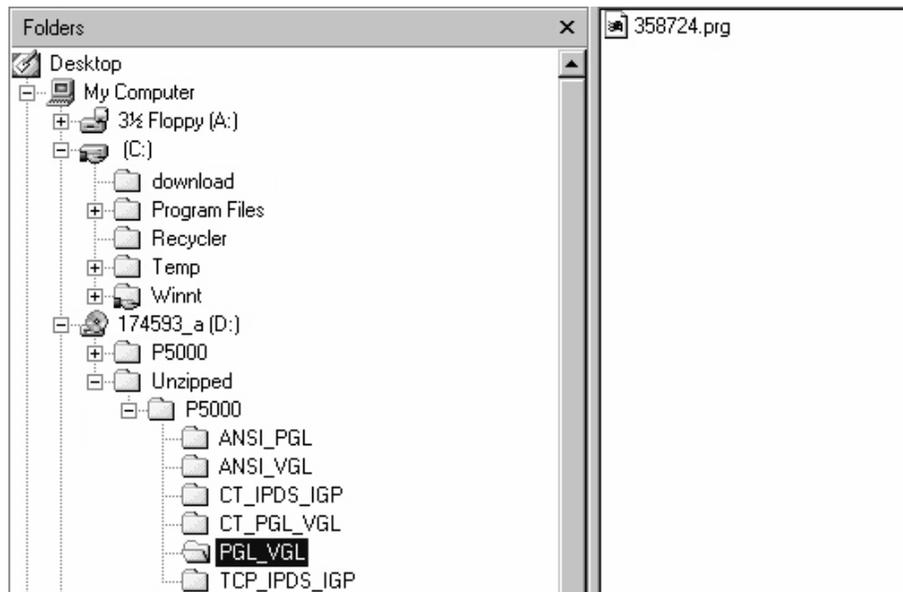

Figure 23. Navigating to the Appropriate Emulation File on the CD-ROM
9. Using Windows Explorer, navigate to the file in the Unzipped directory on the CD-ROM that matches the printer model number and emulation you want. (For example, Unzipped ▶ P5000 ▶ PGL_VGL is shown in Figure 23. Your printer and emulation may be different, of course.)